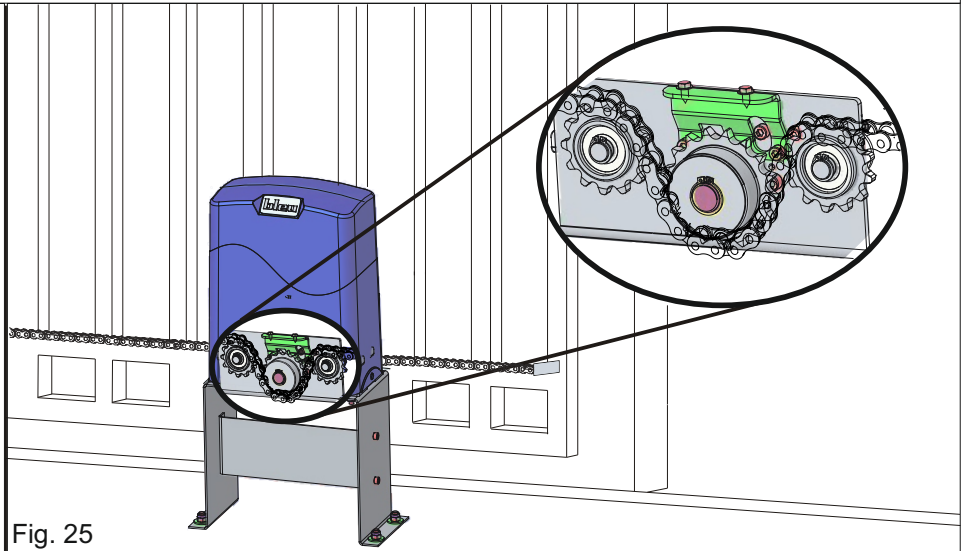

Fig. 25
- THE OBLIGATORY STROKE OF THE CHAIN IS THAT SHOWN IN FIG. 25 AND MUST NOT BE CHANGED
- c) Release the operator and install the chain making it pass through the pinion group as shown in Fig. 25